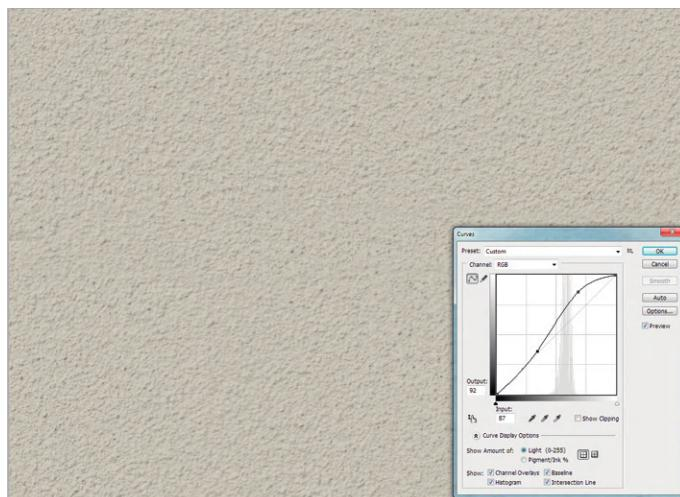

FIG B.9 Results of adjusting Color Balance and Levels.
Step 9: Adjust Levels/Color saturation to taste (Figure B.9). I like using the Image>Adjustments>Curves mechanism.